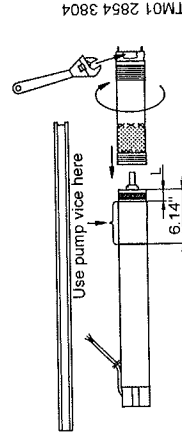

Fig. 11 Pump in vice
1. Place the motor horizontally in a vice and tighten it, see fig. 11.
A spanner may be used on the clamping faces of the pump end, see fig. 11.